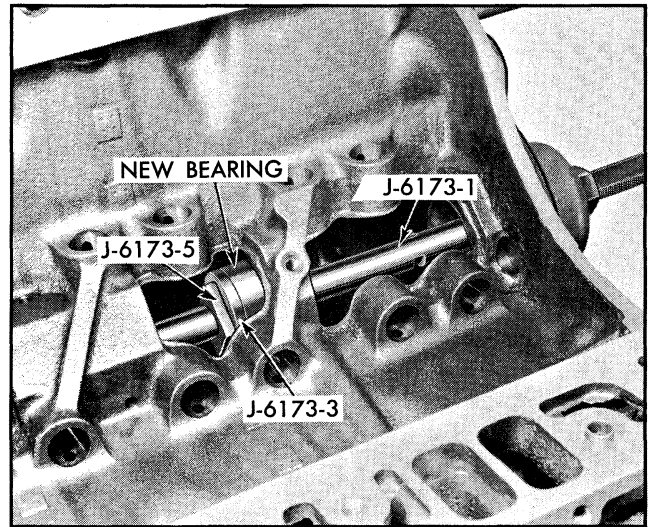

Fig. 6-123 Preparing to Install Camshaft Bearing
5. Position replacer adapter J-6173-3, with bearing in position against shoulder, against rear of hole in which bearing is to be installed (Fig. 6-123). Index mark on shoulder of replacer must point down (toward crankshaft side) to properly position bearing.
7. Slip key J-6173-5 into notches in shaft behind replacer adapter J-6173-3 and tighten nut to start bearing into hole (Fig. 6-123). Continue to tighten nut until bearing has been pulled completely into its hole. When properly positioned, it will be approximately flush with both sides of the transverse member.